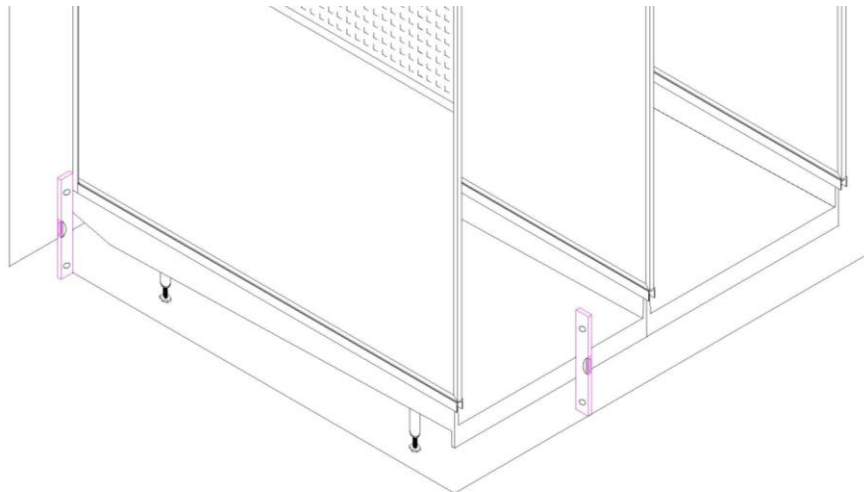

Fig. 38
1. Use a level and chalk line to mark the floor location of Side Trim Panel aluminum angle supports. See Fig. 38.